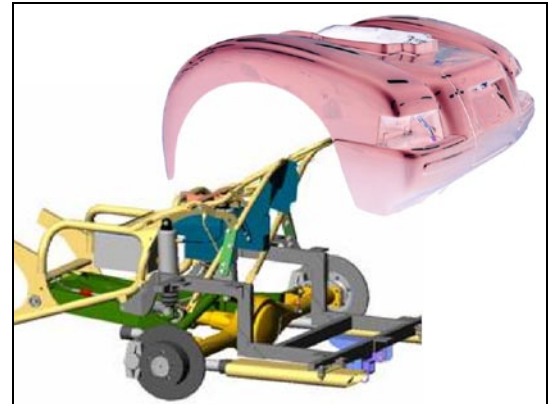

Figure 53
- e. Position Trike Body over vehicle and elevated trunk stay, and carefully lower into place onto body frame. Figure 53